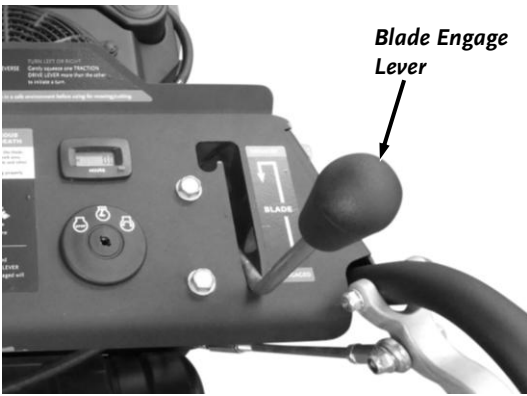

Figure 26
2. Push the Blade Control Lever forward, then to the left and down to the "Engaged" position (Figure 26).
1. Stop the Blade by pushing the Blade Control Knob up and to the right, then pulling back to the "Disengaged" position (Figure 26).